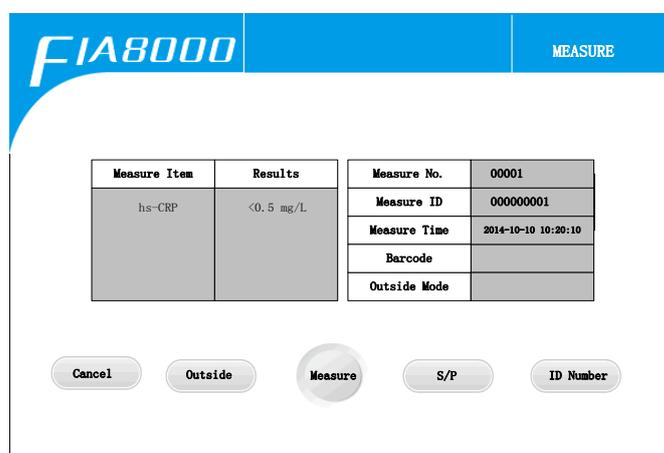

Fig.2 Boot screen
2. The system will check its hardware automatically. The self-check procedure shows in Fig.2.